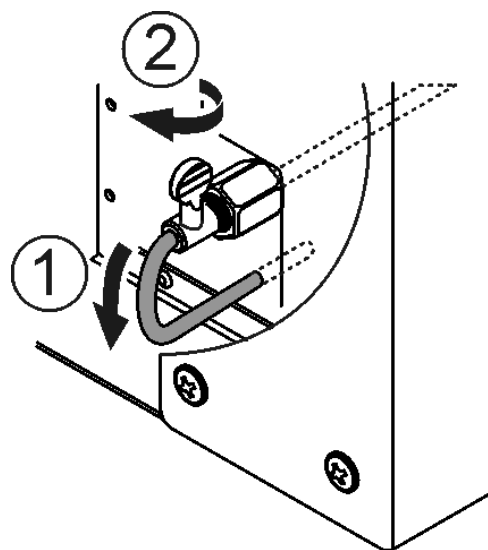

Figure 23.
10. Fit a cable retainer over the bottom end of each cable (See figure 23).
11. Pull each cable taut. Push the cable retainers hard up against the convection box flanges. Tighten the screws in the retainers so that they clamp the cables in position. Apply tension to the cables by turning the hexagonal adjusters by hand (See figure 23).
13. Push the free length of the cables through the adjacent holes in the convection box so that they are available to allow easy removal and refitting of the appliance during subsequent service calls (See figure 23).